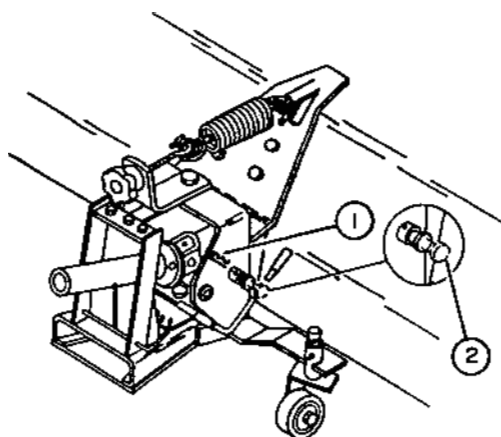

FIGURE 4
- d) Remove hair pin (fig.4, item 1) from welded sleeve on right hand side of broom mounting bracket. Carefully pull out the pin (fig.4, item 2) to its most extended position and lock in place with same hair pin.